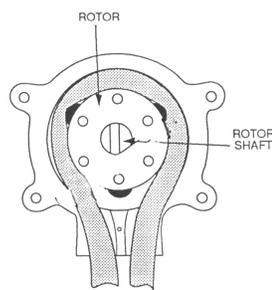

Figure 2. TUBING LOADED
5. Pull the hose tight over the rollers and guide the tubing deep into the cavity as shown in Figure 2.